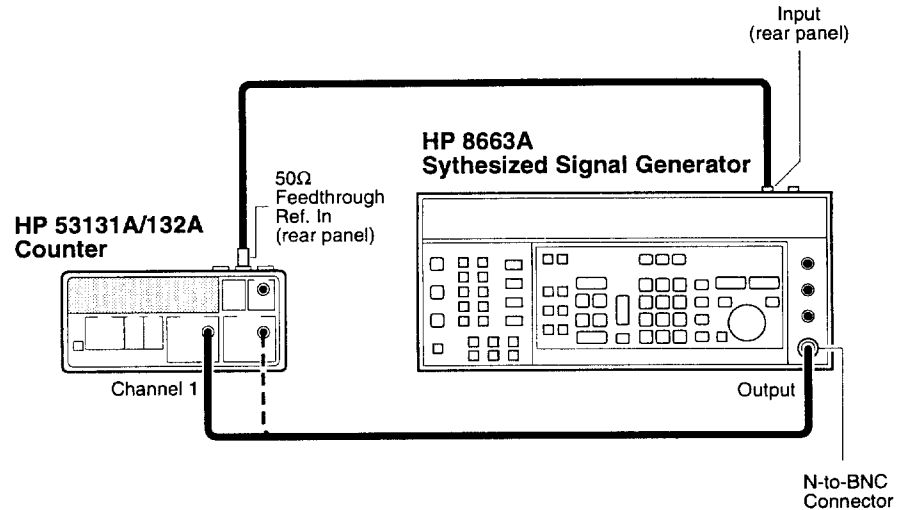

Figure 1-7. Channels 1 and 2 Frequency Sensitivity Test Setup
- 1 Connect the equipment as shown in Figure 1-7, with the signal generator connected to Channel 1 of the Counter.